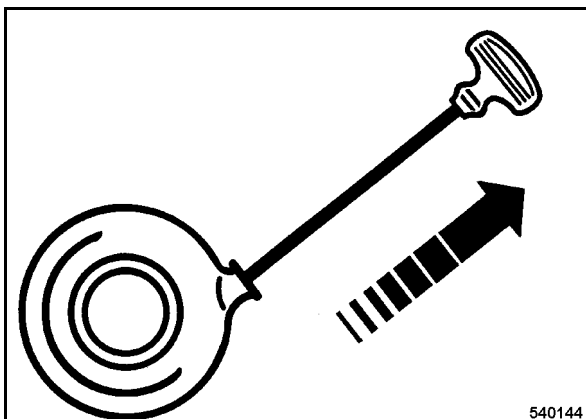

Fig. 15
- Pull the starter handle quickly and with power (Fig. 15).